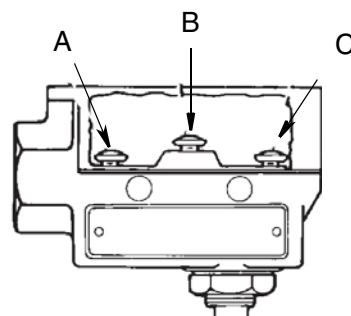

FIG. 13: Low-Level Switch Wiring
2. Disconnect the wiring from the low-level switch terminals (304) (FIG. 13).
5. Wire the low-level switch (304) in accordance with local electrical codes. Refer to wiring diagram, FIG. 13.